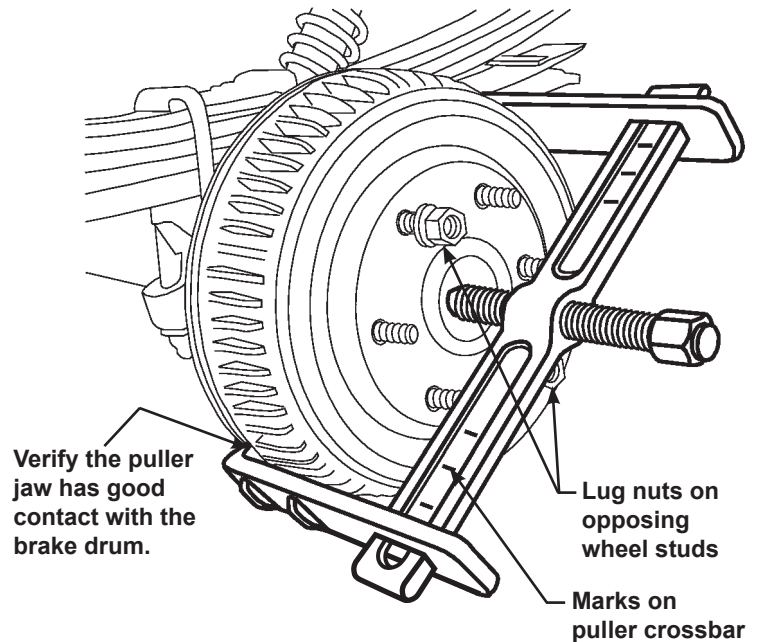

Figure 1
2. After removing the wheel, completely thread two lug nuts back onto two opposing wheel studs. Back off the lug nuts three or four turns to allow the drum to be pulled away from, but not fall off, the wheel hub. See Figure 1.